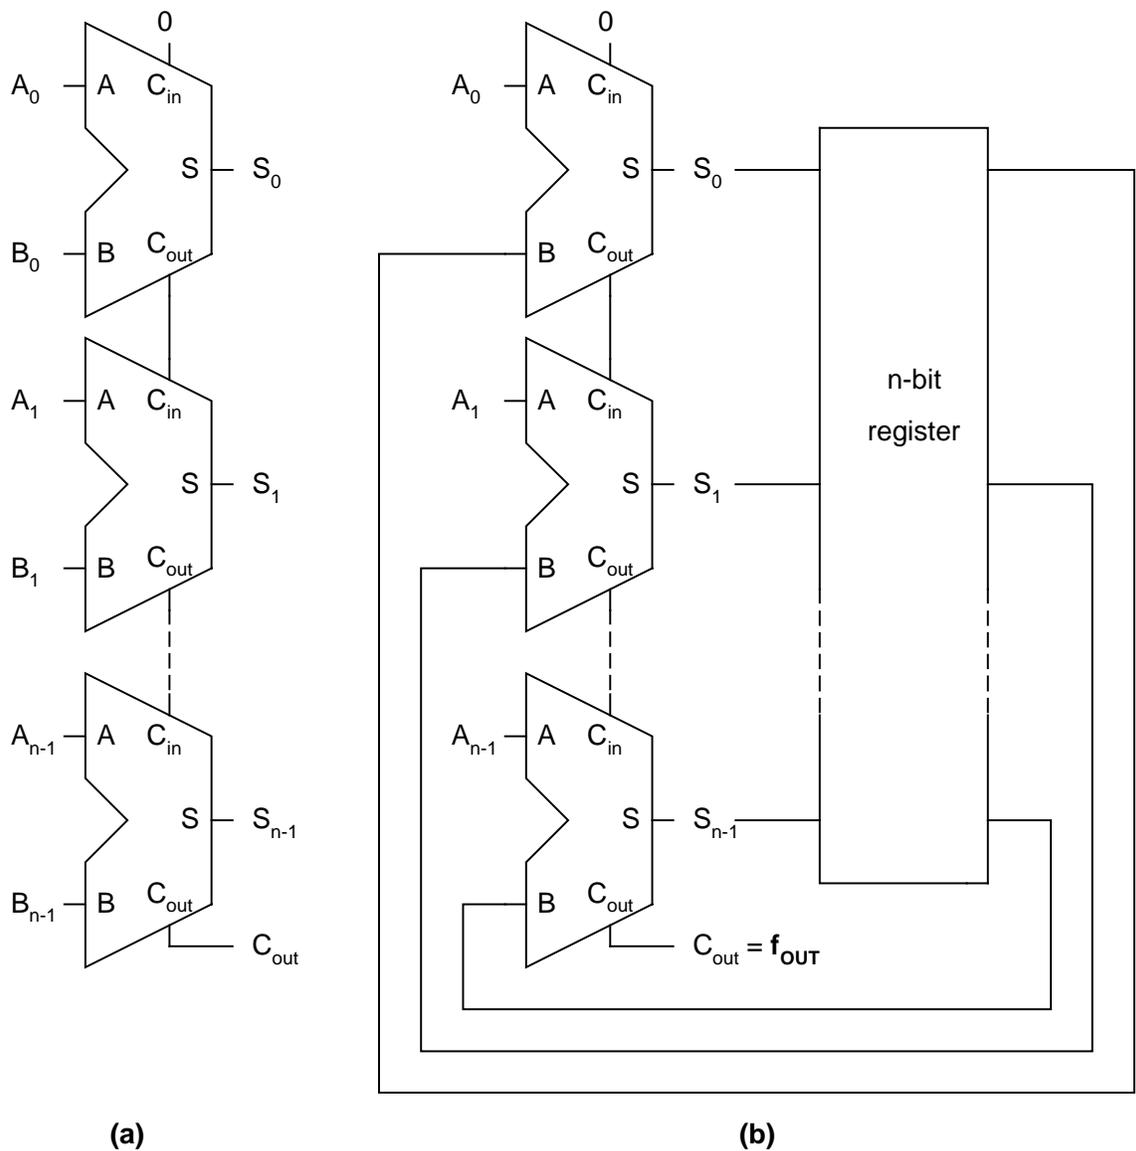

Figure 6: (a) n-bit full-adder w/o overflow detection (b) n-bit accumulator
1. First you should implement a ripple-carry adder **behaviorally** using only PRIMITIVES (AND, OR, XOR, ...) Yes, do it the hard way! You might find Figure 6 useful). You are NOT allowed to use an LPM module for the adder. The logic equations of a full adder are
The reason why the design of exercise 1 is so slow is because the adder requires serial propagation of the carry outputs from the lowest-order stage to the highest order stage (see Figure 6). The “rippling” of the carry from one stage to the next determines the adder's ultimate delay.
In order to solve the long delay problem with the adder, a pipeline flip-flop is inserted between all its bits in the carry path. As can be seen on Figure 6 (b), the output skew this creates is not a problem as only the carry-out (f_{OUT}) is of interest.